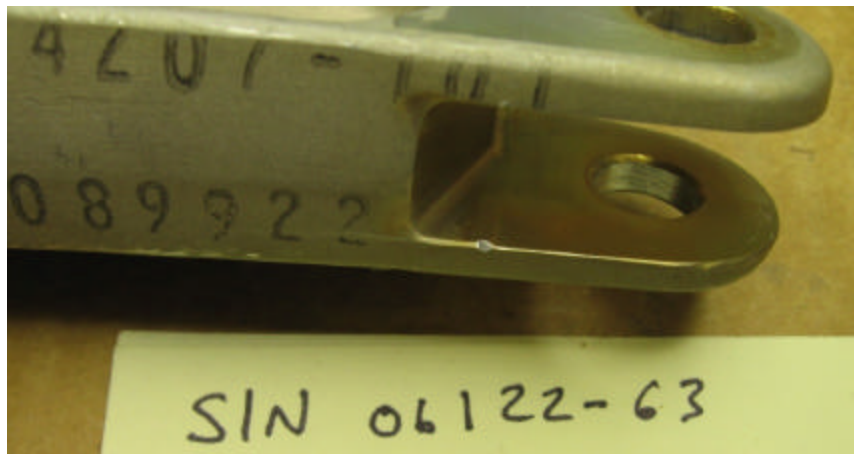

Figure 1. Damage to ear of bellcrank.
- A. Inspect the pitch change bellcranks for contact damage by moving the collective to the mid-range position and using a mirror to inspect for damage or disconnect the pitch change bellcranks from the main rotor control rods and the bellcrank brackets. Follow the procedures for collective friction use and removing the pitch change bellcranks as found in the applicable F-28/280 Series Maintenance Manual. If contact damage is found (see Figure 1 for example), refer to paragraph 5.2 for repair procedures and check the rigging of the collective system at the bottom of the main rotor gearbox IAW paragraph 5.1.B. If no contact damage is found, perform the collective system rigging check at the next 100 hour/annual inspection.